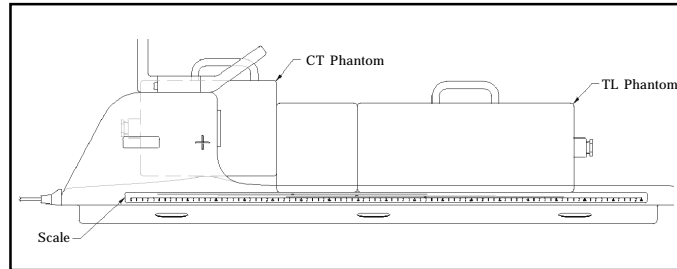

Figure 4: Positioning the phantom set.
- To change the quadrature configuration for magnets with reversed polarity, follow these steps: (1) locate J3 on the feeding board; (2) the normal position for the jumper should be 1-2, 3-4; (3) remove both jumpers and reposition them as 1-3, 2-4; (4) all six feeding boards need to be modified.
- QA Setup** -- Select [New Study], [New Exam] or [New Pt] to set a new landmark. Remove the Quad Head Coil or any other surface coil (if present) from the cradle. **Caution!** The Quad Head Coil must be completely removed from the cradle before performing a body scan. Failure to do this may result in damage to the Quad Head Coil. Place the Phased Array CTL Spine Coil at the center of the cradle. Place the CTL phantom set directly on the coil; do not use the pads (see Figure 4). The set consists of the CT phantom (GE Part 2225545-4, USAI Part 150028) and the TL phantom (GE Part 2225545-3, USAI Part 150027). Make sure the ears of the CT phantom are positioned firmly against the coil sides. Place the TL phantom so that it is positioned face to face against the CT phantom (see Figure 4). Minimize spacing between the coils by pushing the TL phantom against the CT phantom. Connect the Phased Array CTL Spine Coil connector to the phased array port.